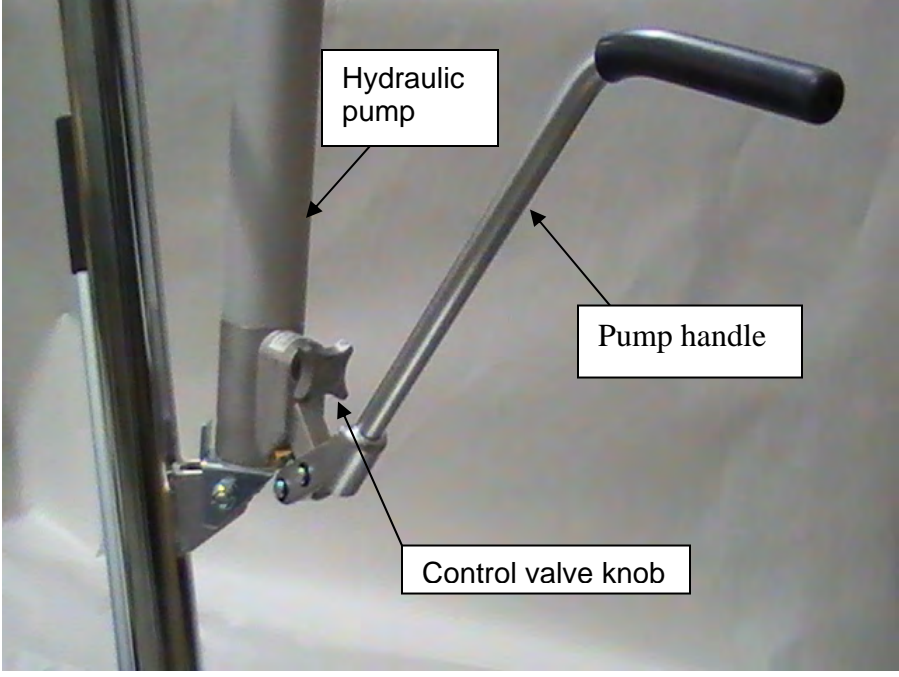

**Figure 4**
10. Insert the hexagon head screw through the stretcher retaining strap eyelet hole. The screw can be inserted through either side of the strap (see Figure 4).
12. Using the same hexagon head screw, assemble the lifter boom and the display support to the lifter mast. Thread the screw through all three parts, and secure the screw with the self lock nut (see Figure 4).
14. Insert the end of the hydraulic pump shaft into the lifter boom’s bracket, and align the assembly holes (see Figure 4).
15. Thread the hexagon head screw through the lifter boom bracket and the hydraulic pump shaft hole. Secure the screw with the self lock nut (see Figure 4).